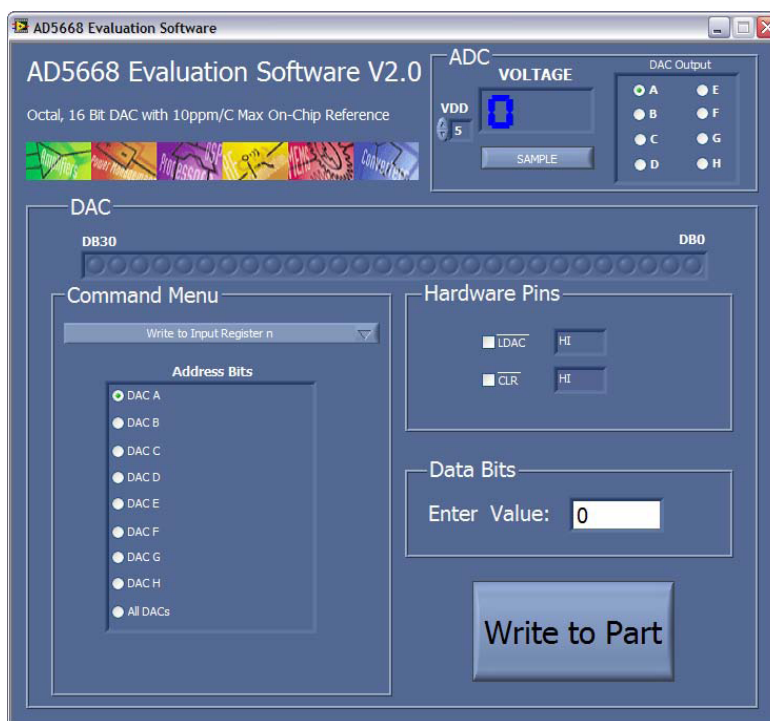

Figure 5. AD5668 Evaluation Board Main Window
4. Notice that the main window of the AD5668 evaluation software then displays, as shown in Figure 5.
The AD5668 main window opens, as shown in Figure 5. The data programmed into the 32-bit input shift register is displayed. You can select the command bits, the address bits, and the data bits by clicking the appropriate button under each area.